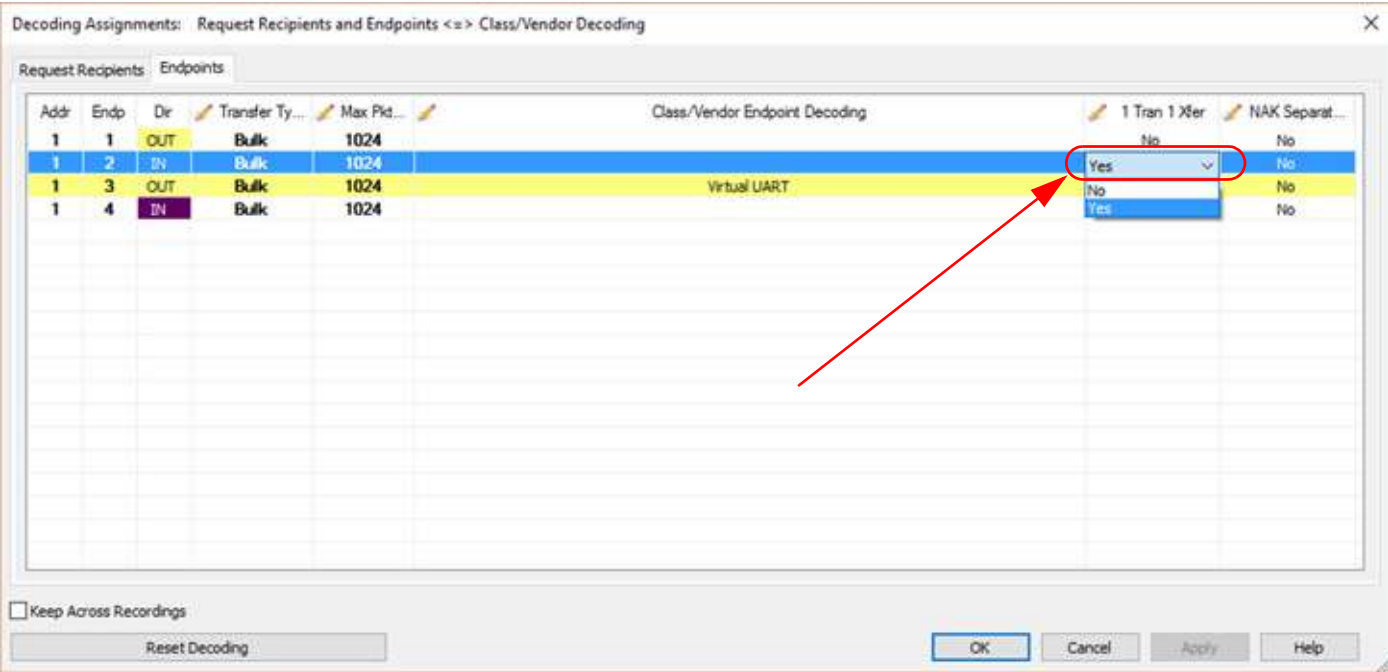
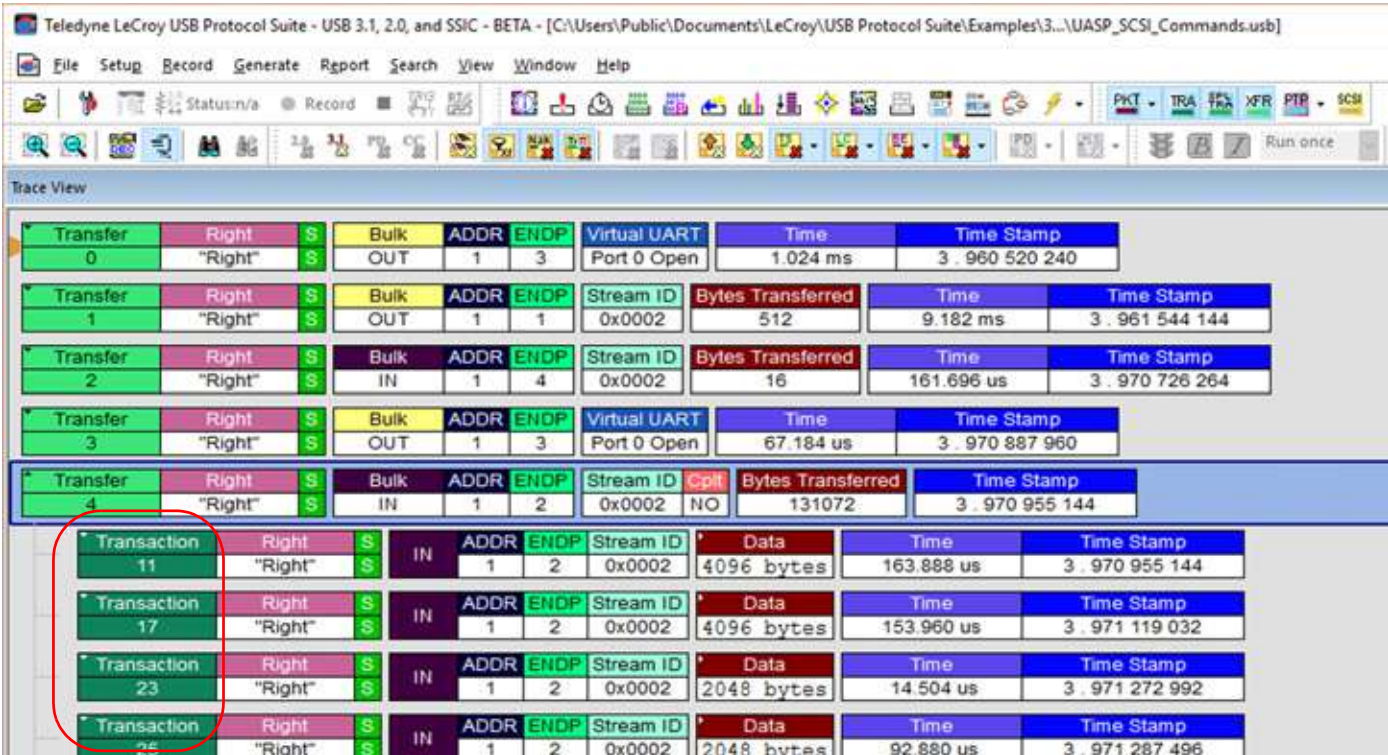
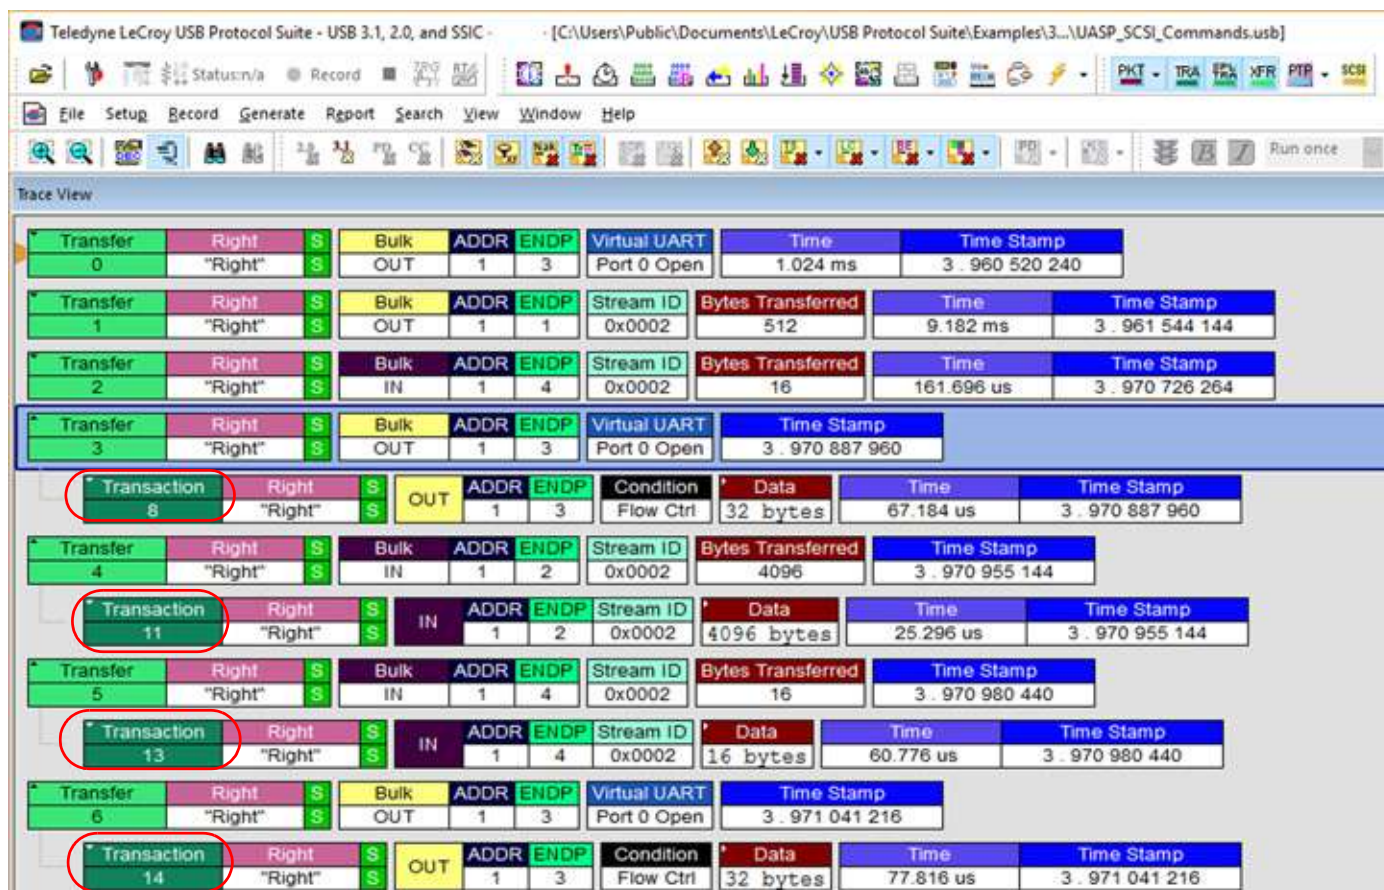

Figure 9.10: Decoding Assignments: 1 Transaction per Transfer
Figure 9.11: Trace View: Several Transactions per Transfer
Figure 9.12: Trace View: 1 Transaction per 1 Transfer
- ☐ 1 Transaction per 1 Transfer (see Figure 9.10 on page 545)
If you select the option: “1 Transaction per 1 Transfer” (see Figure 9.10), the data traffic in Trace View will change from several transactions per transfer (see Figure 9.11 on page 545) to one transaction per transfer (see Figure 9.12 on page 546).